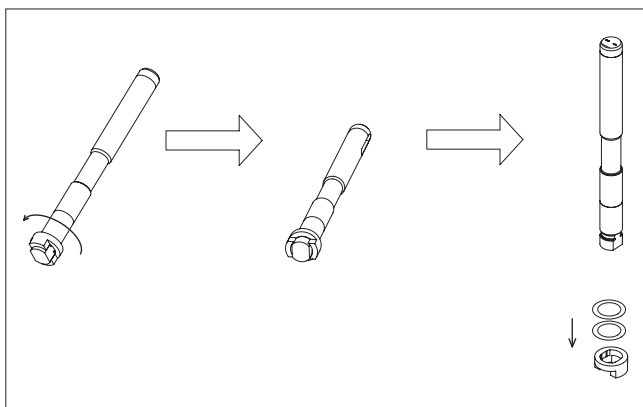

Fig. 18 Detaching the thrust ring in sizes 1" and 1.5"
- Remove the gland nuts (18), spring sets (150) in live loaded versions, one stud (14), retaining plates (42) and gland (9). Remove the packing (69). Remove the pin (50) (2"-12"). Remove the spline driver (2"-8") or thrust ring (1"-1.5") inside the body. For detailed figures to remove the thrust ring see Fig. 18. Remove the shaft (5) by pulling it outwards. Please note that this will detach the thrust bearings (70) from around the shaft.